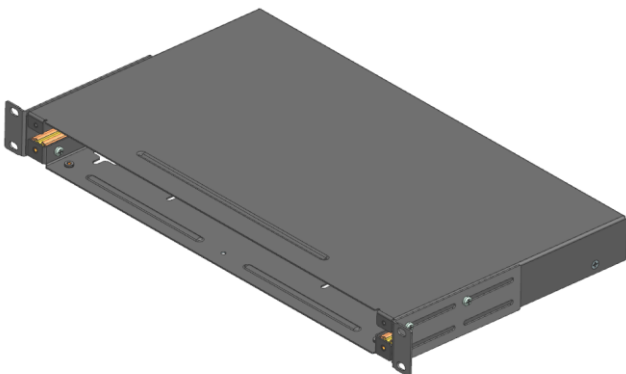

Fig.3D
- Remove the existing mounting brackets from MFE enclosure and retain the screws. (Fig 3D, 3E)